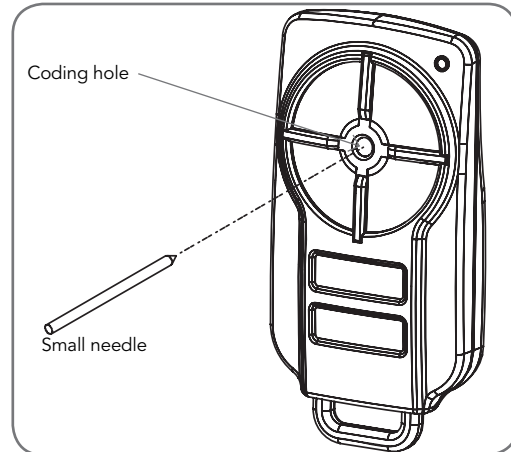

fig 30
- Using a small needle, press and hold firmly for two seconds through the Coding Hole (**Fig. 30**).